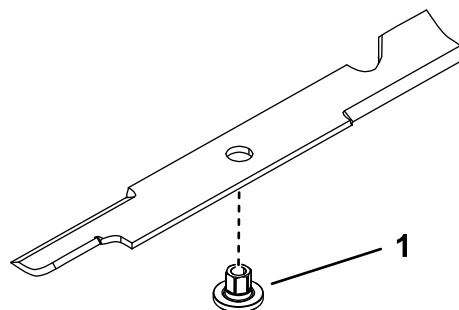

Figure 81
1. Install the bushing through the blade with the bushing flange on the bottom (grass) side of the blade (Figure 81).